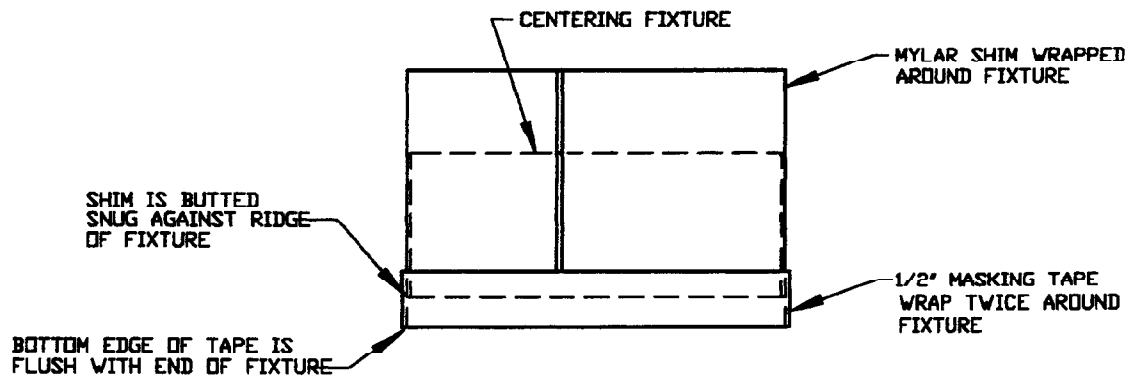

FIGURE 4
1. REMOVE (2) SCREWS HOLDING HORN AND REMOVE HORN. THEN REMOVE AND DISCARD THE OLD GASKET.
6. SLIDE THE COIL FORM ASSEMBLY OVER THE MYLAR SHIM ON THE CENTERING FIXTURE (SEE FIGURE 4) UNTIL THE TOP OF THE COIL FORM TOUCHES THE TAPE ON THE FIXTURE.